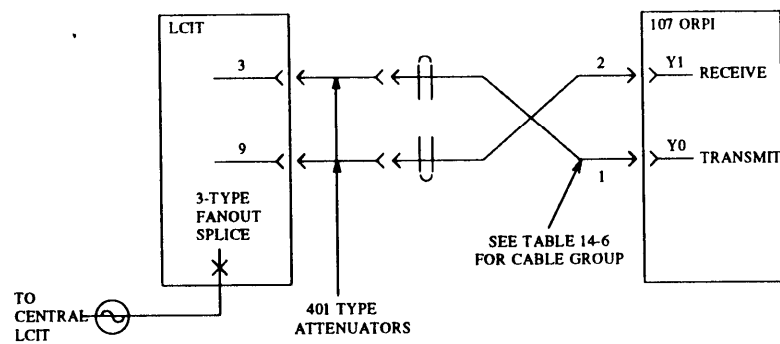

Figure 14-19. ORPI to Remote LCIT Connections
Use table 14-6 to determine the proper cable group. Make the connections between the LCIT and ORPI using the selected cable and figure 14-19. Cables with 50 micron diameter are coded blue(1) or white(2); 62.5 micron cables are gray and stamped with “ 1” or “2.” DEFINITY Generic 2 installations will use the 3B/ST fanouts. Previously installed systems use 3B biconic fanouts, but they will not have to be replaced. For LCITs with biconic connectors, GRP465 must be used with GRP509.